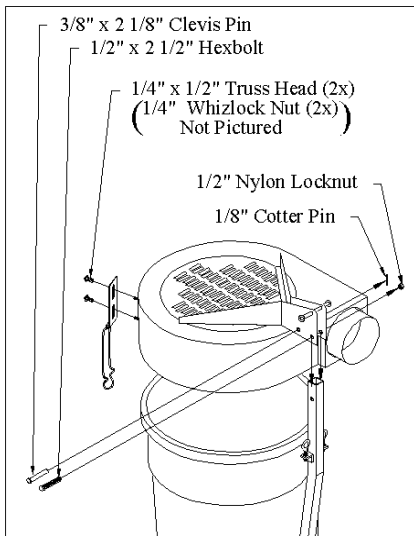
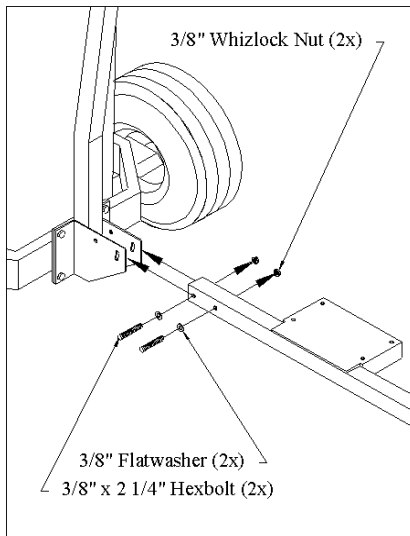

Fig. 4
Fig. 5
4. Place container (21) in container frame. Install foam seal to molded top where container and top will make contact. Set top assembly on can with top support bracket astride the vertical upright. Align pivot hole on top support to hole on vertical upright (3), do not force fit this alignment, if holes do not line up, move vertical upright up or down to the frame (2) until proper alignment is achieved and tighten. Fig. 4. Secure molded top (13) with 1/2" x 2 1/2" HHC and nylock nut. Tighten until slight drag can be felt when pivoting molded top. Pivot top up and attach springs (19) to eyebolts and spring retainers on top support. Lower top assembly to operating position and immediately slip clevis pin (20) thru locking pin hole on top support. Secure pin with 1/8" x 1" cotter key. Attach latch to molded top with 1/4" x 1/2" truss head bolt and 1/4" whizlock nuts. Attach engine frame (1) to vertical upright brackets. Secure with 3/8" x 2 1/4" HHC and flatwasher (under bolt head) and whizlock with nut toward engine. Do not tighten. Attach frame assembly to tractor drawbar with hitch pin (27). Re-level container frame with ground. Now, tighten all bolts. Fig. 5